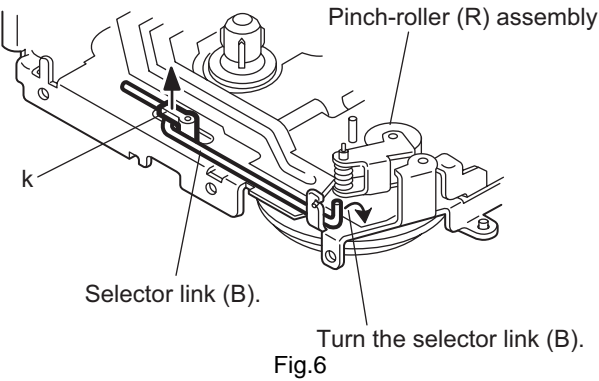

Fig.6
- (1) Raise the part k of the reel base assembly slightly and remove the selector link (B) on the front side of the cassette mechanism assembly by turning it as shown in Fig.6.
- (2) Remove the three screws E and the one screw F on the underside of the cassette mechanism assembly.